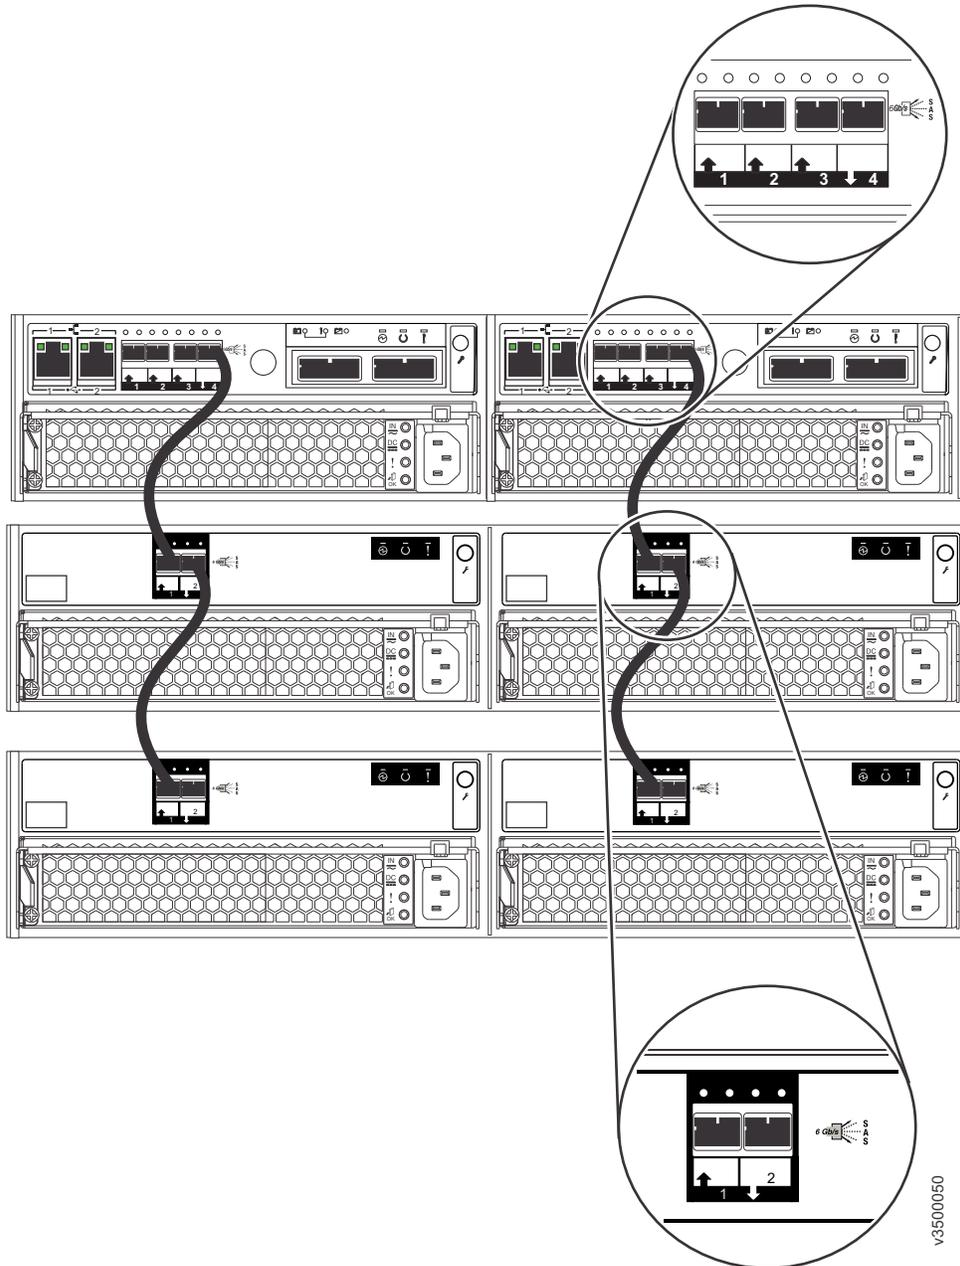

Figure 28. Connecting the SAS cables
1. Using the supplied SAS cables, connect the control enclosure to the first expansion enclosure as shown in Figure 28.
2. If additional expansion enclosures are installed, connect each one to the previous expansion enclosure as shown in Figure 28 on page 42.